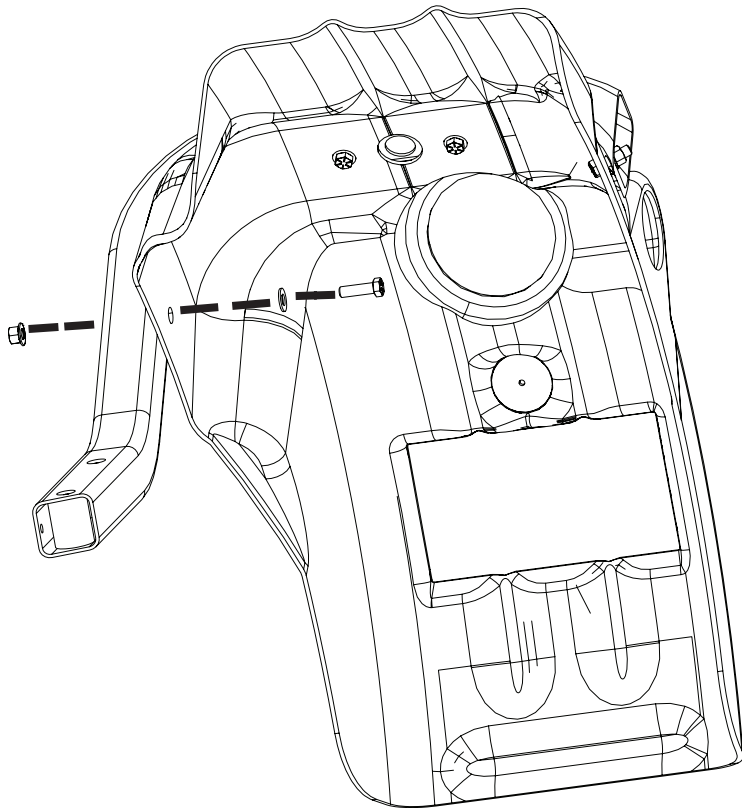

Figure 2
5. Install the plastic fender onto the new tube using new bolts (PN 1136593 quantity 4), washers (PN 0200700 quantity 4), and nuts (PN 0120200 quantity 4) (Figure 2).